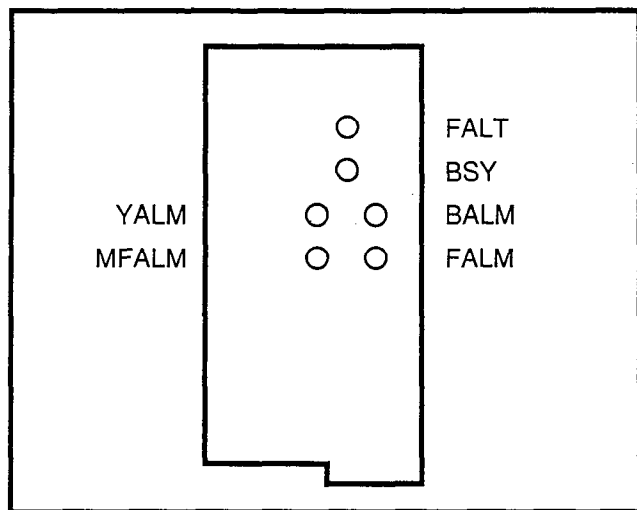

FIGURE 7—LED POSITIONS
3.51 The LEDs on the front panel of the PCB (see Figure 7) are defined as follows: